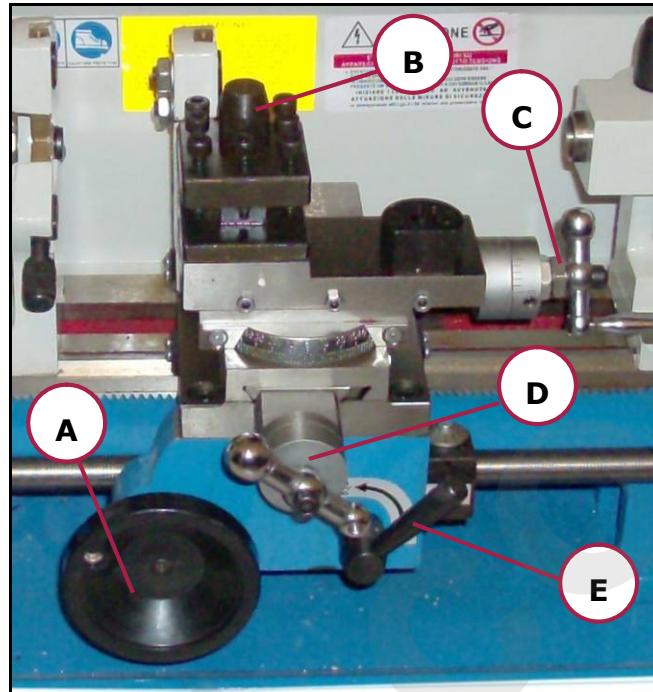

Figure 13 – Lever and hand wheel of the tailstock.
On the tool holder carriage there are five manual controls (levers and hand wheels) for carrying out fine adjustments and feeding (see Figure 13).
4. Insert the tool on the turret of the tool holder carriage, and secure it with the relative locking lever (see ref. b in Figure 13).
5. Adjust the position of the tool carriage and slide using the appropriate levers and hand wheels (see Figure 13).
8. Perform the machining of the work piece, by moving the tool towards the work piece, in rotation, only using the hand wheels that regulate the fine movement of the tool holder slides (see ref. c/d in Figure 13).